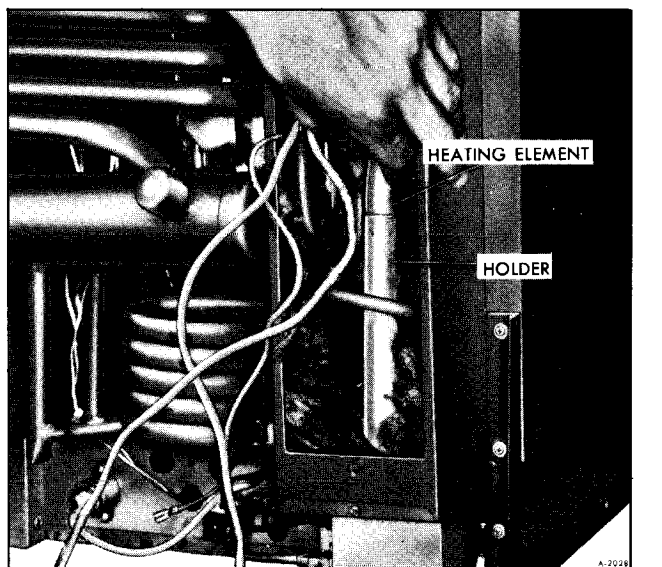

Figure 2—Removing Heating Element
5. Pull heating element out of holder (figure 2).